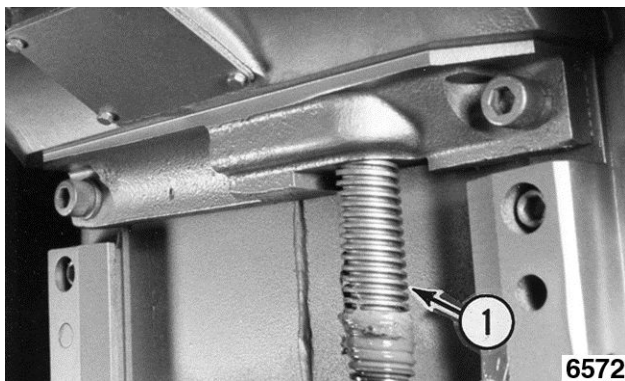

Fig. 9
- C. Coat lift screw with Lubriplate 630AA [1] Fig. 9.